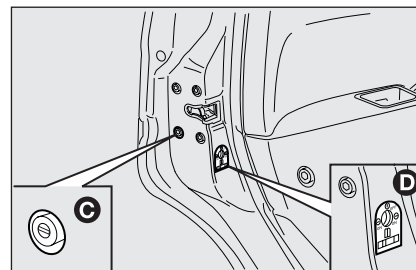

fig. 21
- ☐ cut-in of door lock device **C**-fig. 21 when the electric system is failing (e.g. run-down battery);
- ☐ cut-in of child lock safety device **D**-fig. 21 on rear doors.